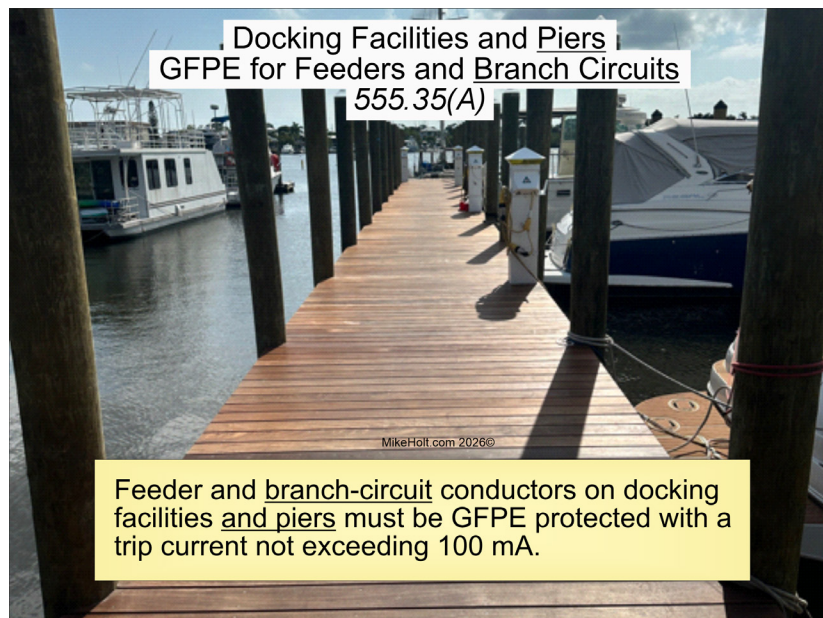

Fig. 21.
(A) Feeders and Branch Circuits. Feeder and branch-circuit conductors on docking facilities and piers must be GFPE protected with a trip current not exceeding 100mA, as shown in **Fig. 21.**